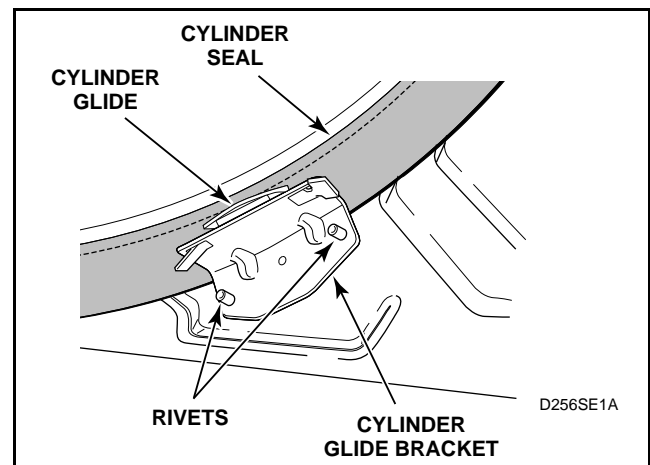

Figure 33
- Cylinder Glides and Glide Bracket. See *Figure 33*.